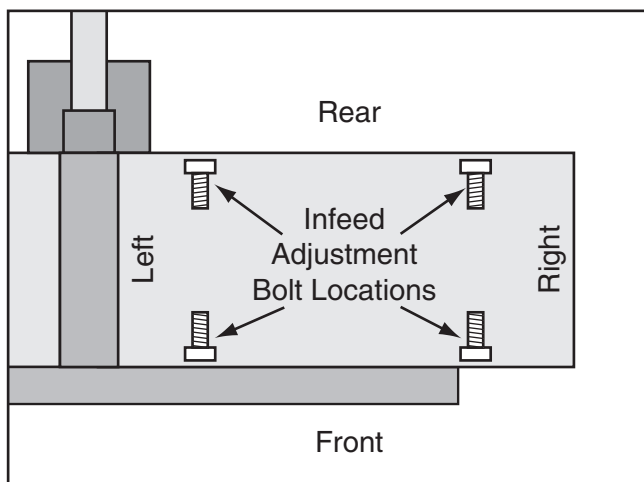

Figure 74. Locations of the infeed table adjustment bolts.
8. Loosen the screw that secures the depth of cut pointer (see **Figure 74**), adjust the pointer to "0", then re-tighten the screw.